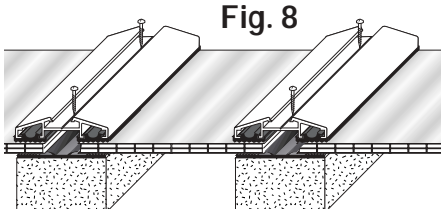

Fig. 8
Step 9: Place an adjoining sheet with 'U' profile already fitted at the ridge end into position on the rafter gasket remembering to leave 5mm at either side for expansion. Fix through the 306 cap and through the 261 gasket into the rafter by using 62mm stainless steel wood screws (Ref. 62/10/WS). Ensure that screws are not over tightened as this will undulate the glazing bar cap, limit the expansion and compress the sheet (Fig. 8).